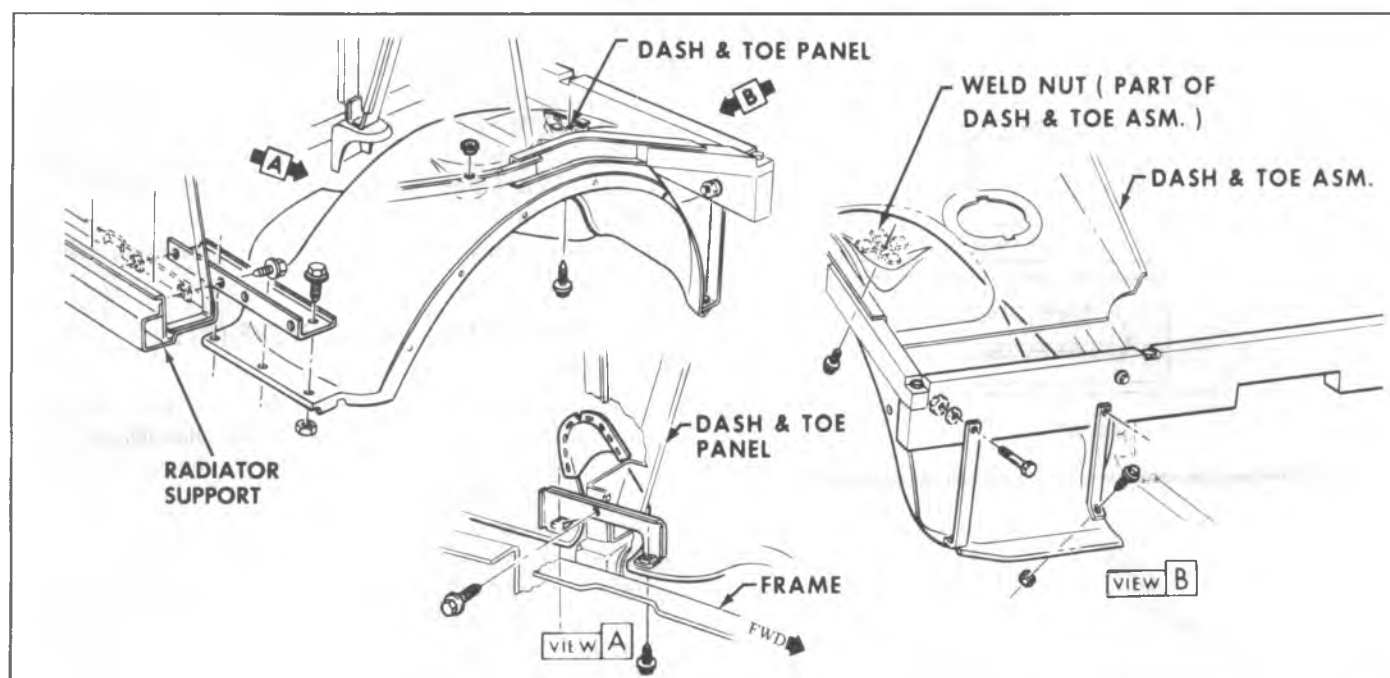

Fig. 2C-18--Fender Skirt, Dash and Toe Pan-P Series
Refer to Fig. 2C-17 for removal and installation of running boards.
Refer to figure 2C-18 for removal and installation of fender skirt, brackets, rear supports and hangers.
2. Mark proper alignment position of molding with a length of masking tape. Use adjacent moldings as a guide, if applicable (view A, Fig. 2C-19.)